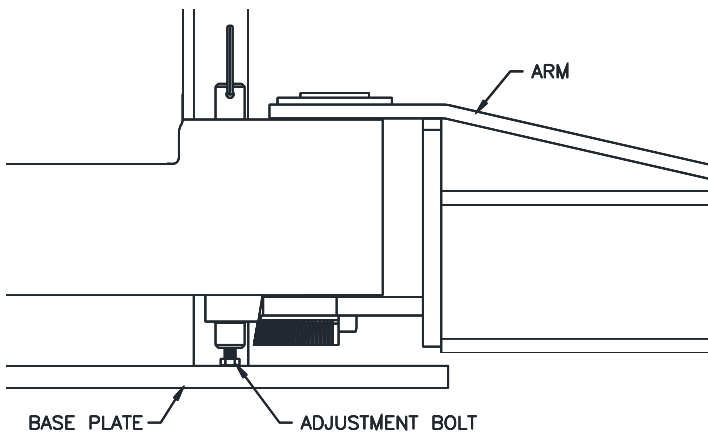

Fig. 21-Bolt Adjustment
- 63) Adjust the hex head bolt in the bottom of the arm restraint shaft so the arm is allowed to rotate freely when lift is completely lowered, **Fig. 21**.